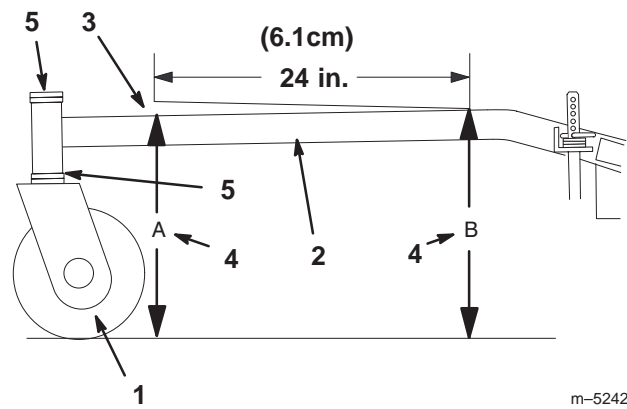

Figure 50
The carrier frame must have a pitch of a 1/4 in. (6 mm) over the length of 24 inches on the carrier frame (Fig. 50).
1. Measure out 24 inches (6.1 cm) on the carrier frame (Fig. 50).
2. Measure carrier frame height at location **A** (Fig. 50).
3. Measure carrier frame height at location **B** (Fig. 50).
4. The height at location **A** must be a 1/4-3/8 in. lower than location **B** (Fig. 50).
5. If the carrier frame is not correct, move caster spacers to make it a 1/4-3/8 in. (6-10 mm) pitch (Fig. 50). Move spacers from top or bottom to make the correct pitch.